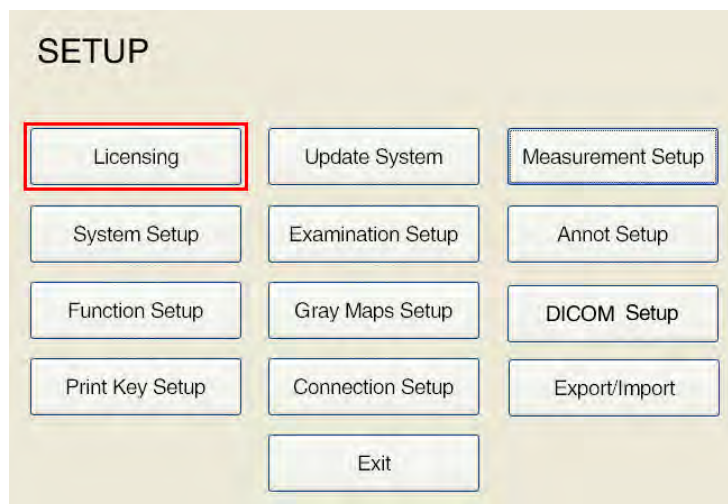

Figure 223: Main SETUP screen
1. Click on **Setup** on the control panel to open the main **SETUP** screen, as shown in Figure 223.